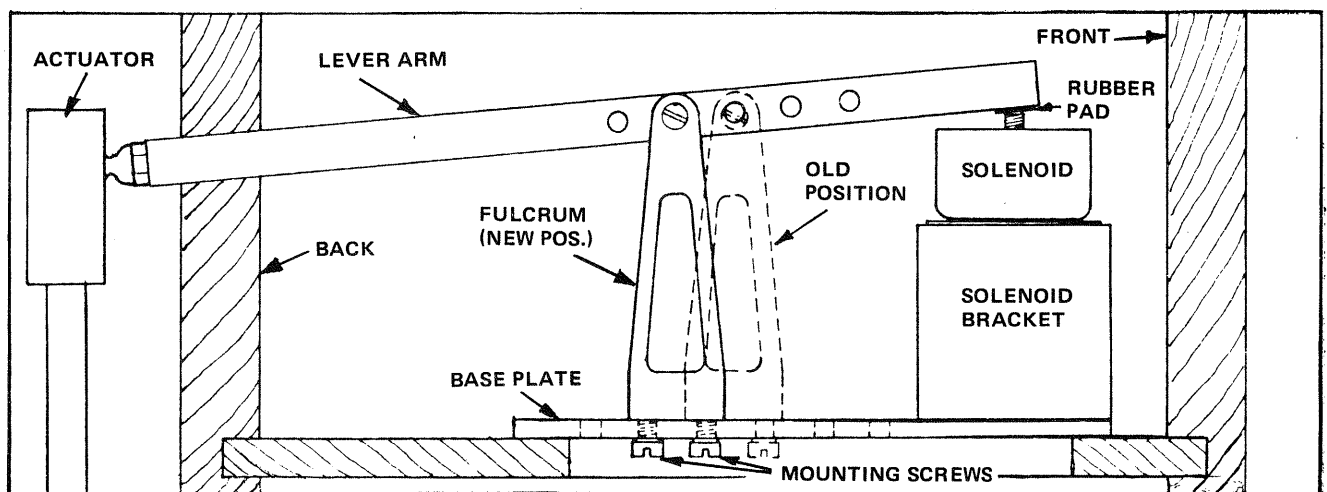

FIGURE 9-31 Fulcrum adjustment.
L. Reassemble the Solenoid, move the unit up to the piano, secure it, attach the Pedal Actuator Shoes to the Pedals, and repeat STEP 9-60 to align the Actuator length. Plug the Power Cord into the Circuit Interrupter and turn the Interlock and ① POWER Switches ON. Push the ⑩ PLAY Button and observe the operation of the Solenoid. If the Solenoid is operating correctly, proceed to Point P on page 138. If the Solenoid requires still more thrust, proceed to Point M below. See the CAUTION under Point K above.
M. Stop the tape, remove the Vorsetzer from the piano (see the CAUTION under Point K above), and adjust the fulcrum point of the Solenoid Lever Arm by removing the Screw from the Lever Arm and the two (2) Screws securing the Fulcrum to the Base Plate (see FIGURE 9-31 below). Move the Fulcrum one set of holes TOWARD the Actuator end of the Lever Arm and secure it to the Base Plate with the two (2) mounting Screws. Pin the Lever Arm to the Fulcrum with its mounting Screw (use the first hole TOWARD the Actuator end of the Lever Arm from the original mounting hole that was used previously). See FIGURE 9-31 below. See the NOTE at the top of the next page, then proceed to Point N.
After moving the Fulcrum, always make sure that the rubber pad on the Lever Arm (see FIGURE 9-31 on the previous page) is positioned over the Solenoid plunger.
- V. Move the Vorsetzer back to the piano and install it. Plug the Power Cord into the Circuit Interrupter, turn the Interlock and ① POWER Switches ON, and press the ⑩ PLAY Button. Observe the operation of the Solenoid. If it is operating correctly, proceed to Point X on the next page. If it is not, repeat Points O through V until the noise is eliminated.
- W. If the Solenoid is noisy when it releases, the internal resistance of the Dashpot is too low. To adjust the resistance of the Dashpot, move the unit away from the piano (see the CAUTION at the top of this page), tighten one of the Air Valves (see FIGURE 9-31 above) 1/2 turn, install the Vorsetzer on the piano, reapply power, and play Program 9. Observe the operation of the Solenoid. If it still is noisy, move the unit away from the piano (see the CAUTION at the top of this page), tighten the other Air Valve, install the Vorsetzer on the piano, apply power, and try the Solenoid again. See the NOTE below.